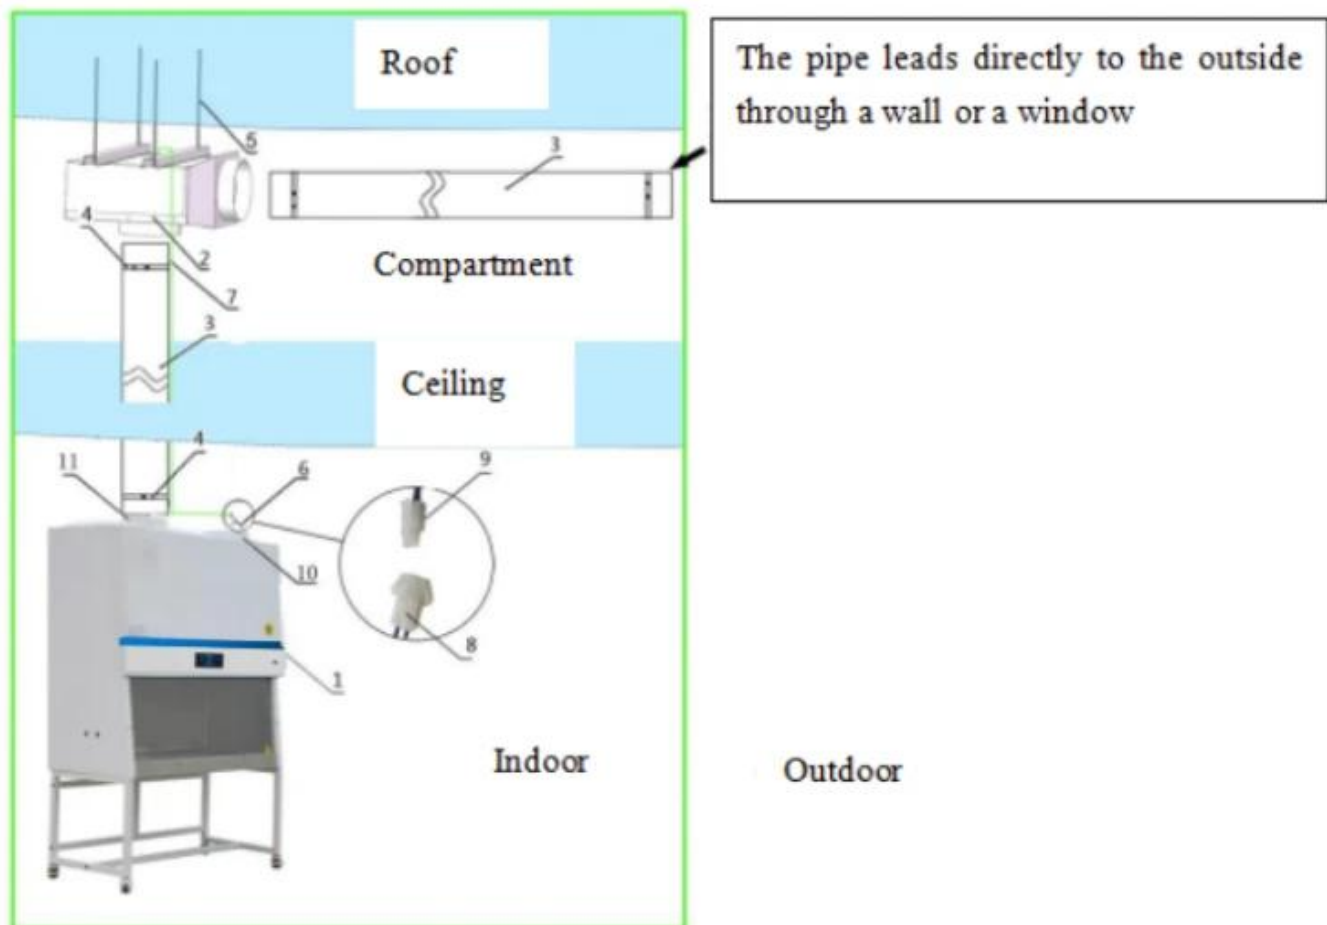

Fig 5
- (1) After connecting the host to the base, place it in the original position.
- (2) If the space of the compartment is large enough, put the expansion screw on the roof wall of the top of the safety cabinet as shown in Figure 5/6. You can use a wire rod and other hanging rods to hang the external fan on the roof wall (to ensure safety) , please operate by professional installers) (note that the exhaust fan outlet is facing down).
- (4) Pull out the pipe and pull one end into the air outlet of the safety cabinet, as shown in Figure 5/6,
(5) Extend the other end of the pipe through the ceiling (requires opening), and insert the suction port of the connected external fan as shown in Figure 5/6 to fasten the pipe pipe clamp.
(6) Connect the control line of the external exhaust fan along the pipeline, and connect the outlet fan control line socket to the external exhaust fan control line at the top of the host.
(7) Take out another pipe and pull it out, and insert one end into the exhaust fan outlet of the outer exhaust fan, as shown in Figure 5/6, tighten the pipe pipe clamp.
(8) Connect the other end of the other pipe to the indoor ventilation system or directly to the outside through the partition wall and the partition window. The ventilation system needs to meet the corresponding air supply capacity required by the safety cabinet.